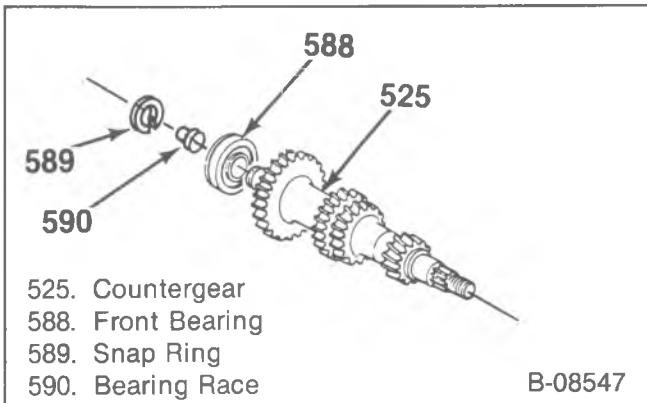

Figure 96—Countergear and the Bearing
Disassemble (Figure 96)
Clean (Figure 96)
Inspect (Figure 96)
**Assemble (Figure 96)**